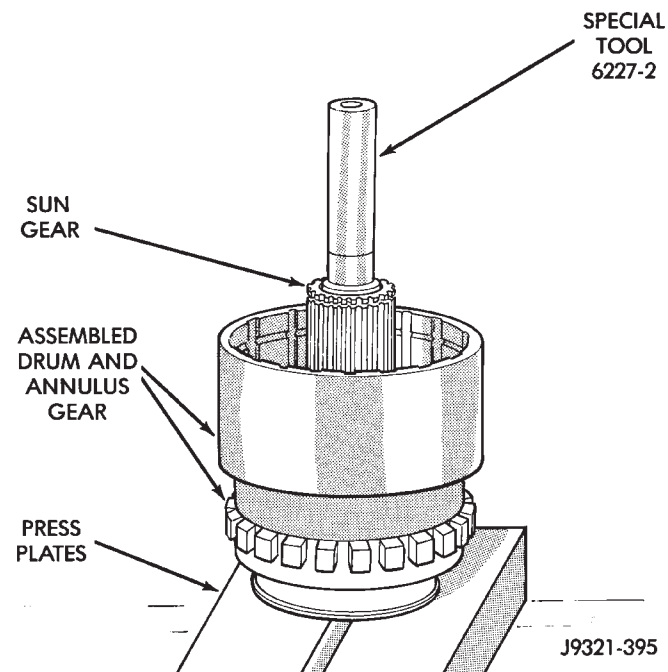

Fig. 288 Alignment Tool Installation
(16) Mount assembled output shaft, annulus gear, and clutch drum in shop press. Direct clutch spring, hub and clutch pack are easier to install with assembly mounted in press.
(17) Align splines in hubs of planetary gear and overrunning clutch with Alignment tool 6227-2 (Fig. 288). Insert tool through sun gear and into splines of both hubs. Be sure alignment tool is fully seated before proceeding.